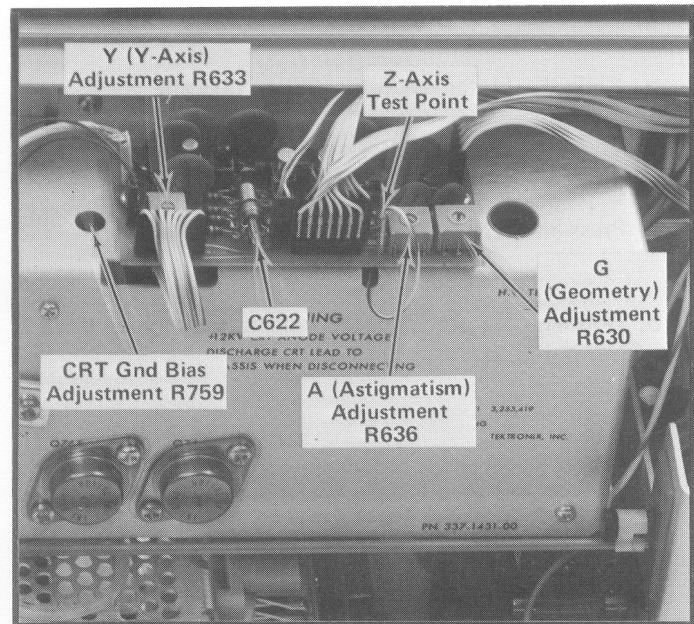

Fig. 5-4. Locations of Display and Z-Axis Adjustments and test point.
- d. Connect the DC voltmeter (VOM) between the Z Axis test point (see Fig. 5-4) and chassis ground. Note the voltmeter reading.
- f. ADJUST—CRT Grid Bias adjustment R759 (see Fig. 5-4) so the dot on the CRT screen is just extinguished.
f. ADJUST—FOCUS control and A (Astigmatism) adjustment R636 (see Fig. 5-4) to obtain best display definition.
e. Connect the probe tip to the Z-Axis test point (see Fig. 5-4).
i. ADJUST—C622 (see Fig. 5-4) for optimum square leading corner (use low-capacitance screwdriver to adjust variable capacitor).
d. ADJUST—Y (Y-Axis) adjustment R633 (see Fig. 5-4) to align the trace with the center vertical line.
- l. ADJUST—G (Geometry) adjustment R630 (see Fig. 5-4) for minimum bowing of time markers. Adjustment may have to be compromised to obtain less than 0.1 division bowing and tilt everywhere within the graticule area.